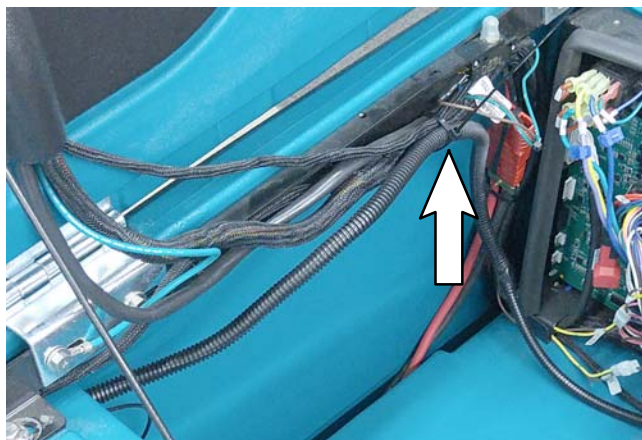

FIG. 14
15. Using cable-tie (11), secure the telemetry harness to main machine harness as shown (FIG. 14)
16. Route the brown and yellow wires from the telemetry harness under cover clip as shown (FIG. 14).